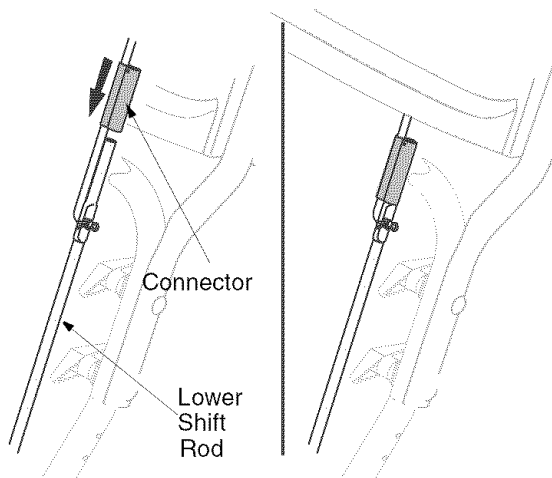

Figure 6
- Slide the shift rod connector down over the end of the lower shift rod. Tap the connector until it **locks** over the lower shift rod. See Figure 6.